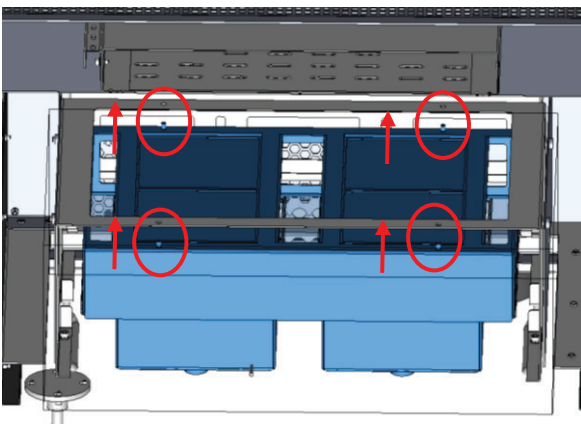

Figure 11. Four Screws on Lamp Holder
- 2) Put the four screws on the emitter holder into the four round holes on the cradle. The slotted side of the light frame should face the exhaust fan. (Figure 11.)